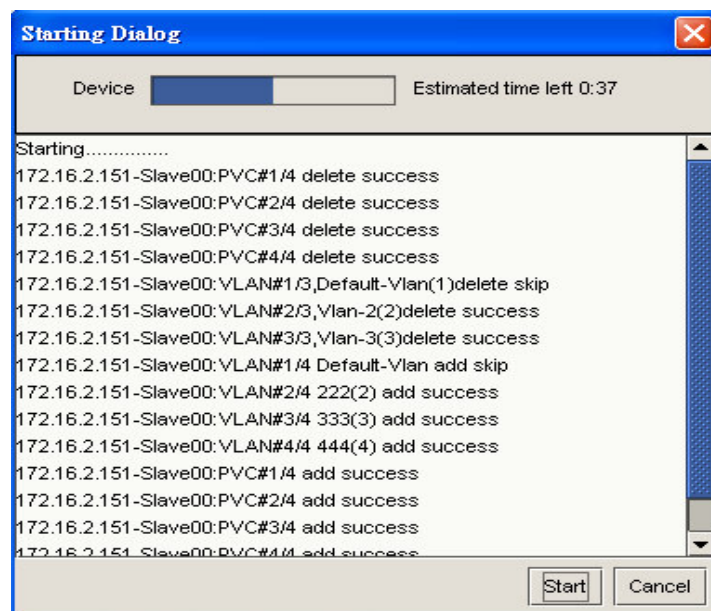

Figure 9-14. Deploy progress dialog
Step3: Push the start button to deploy the PVC profile, the result will display on the center of the dialog as below Figure 9-14: From the result: users may see the whole action log.